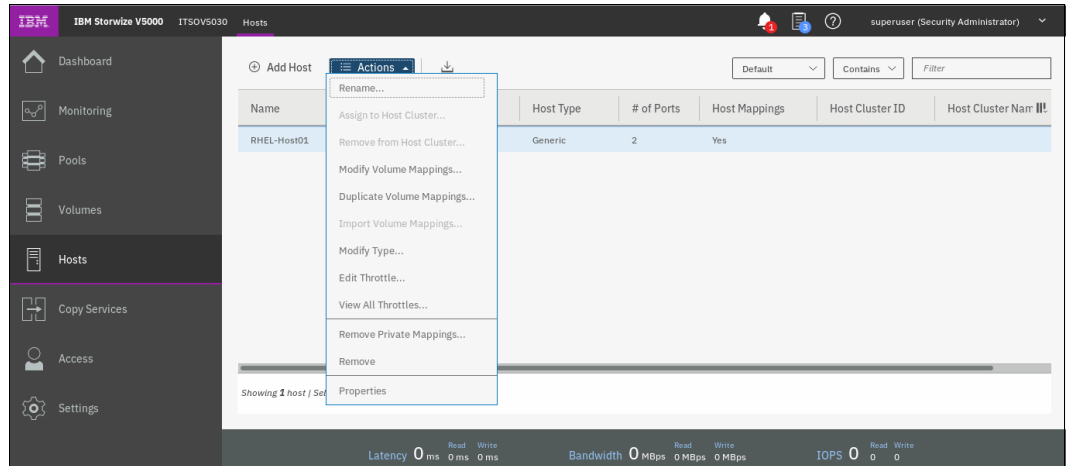

Figure 8-10 Action for the selected host
- From the list, select the host for which you want to unmap a volume, and then, click **Action**, as shown in Figure 8-10.